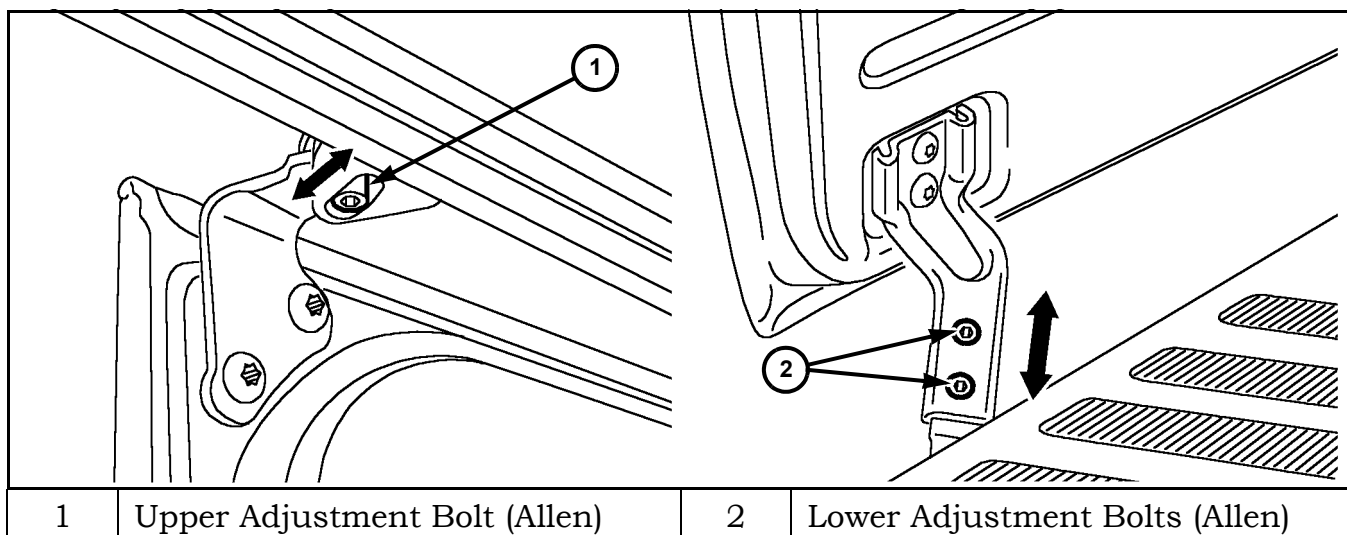

Figure 11 Front of Door Flushness Adjustment
12. Tighten center roller arm bolt (3).
13. Loosen upper and lower roller arm adjustment bolts (Figure 11).